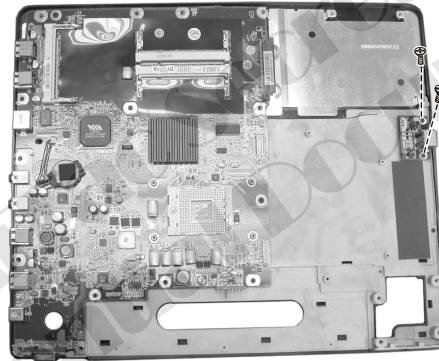

Figure 2-28 Free the modem board
2. Remove the two screws fastening the modem board and free the modem board. (Figure 2-28)